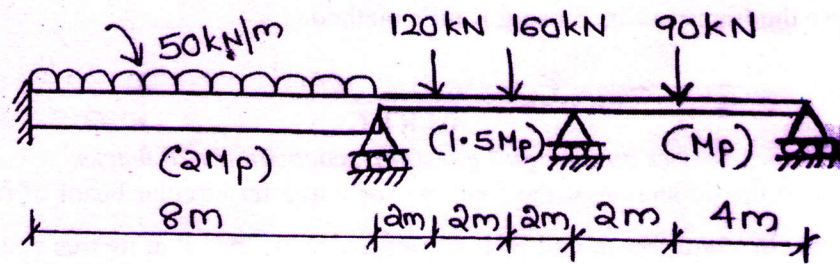

Fig. 8
- b) A propped cantilever beam of length ' L ' is subjected to udl of intensity w/m . Determine the collapse load if the plastic moment capacity of the beam is M_p . (12)
- 9 a) Determine the plastic moment capacity for the continuous beam shown in Fig. 8. The loads are collapse-loads. (20)